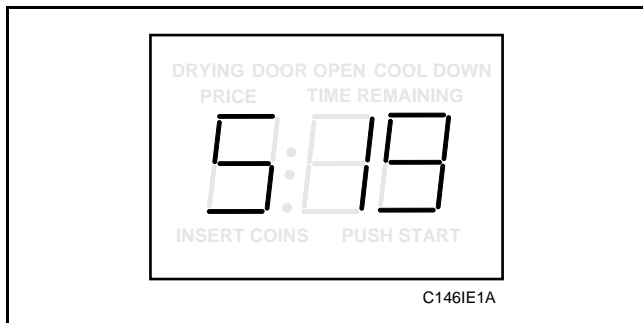

Figure 37
2. While pressing and holding the HIGH TEMP pad with one hand, press the MED TEMP pad with the other hand. Programmable option number 1, (Audio Signal “SIg”), will appear in the VFD, *Figure 37*.